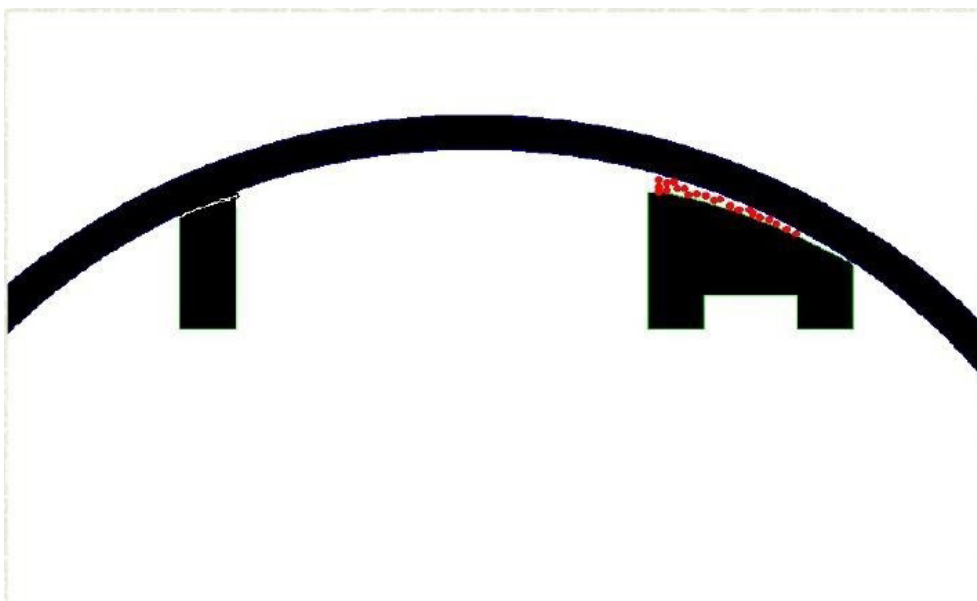

Fig 6: Showing dirt trap over a seal in suction couch roll
- All the above and any other particles even in dust form or through water showers can collect over the seals (as shown in red in Fig 6) causing them to wear out over the time.